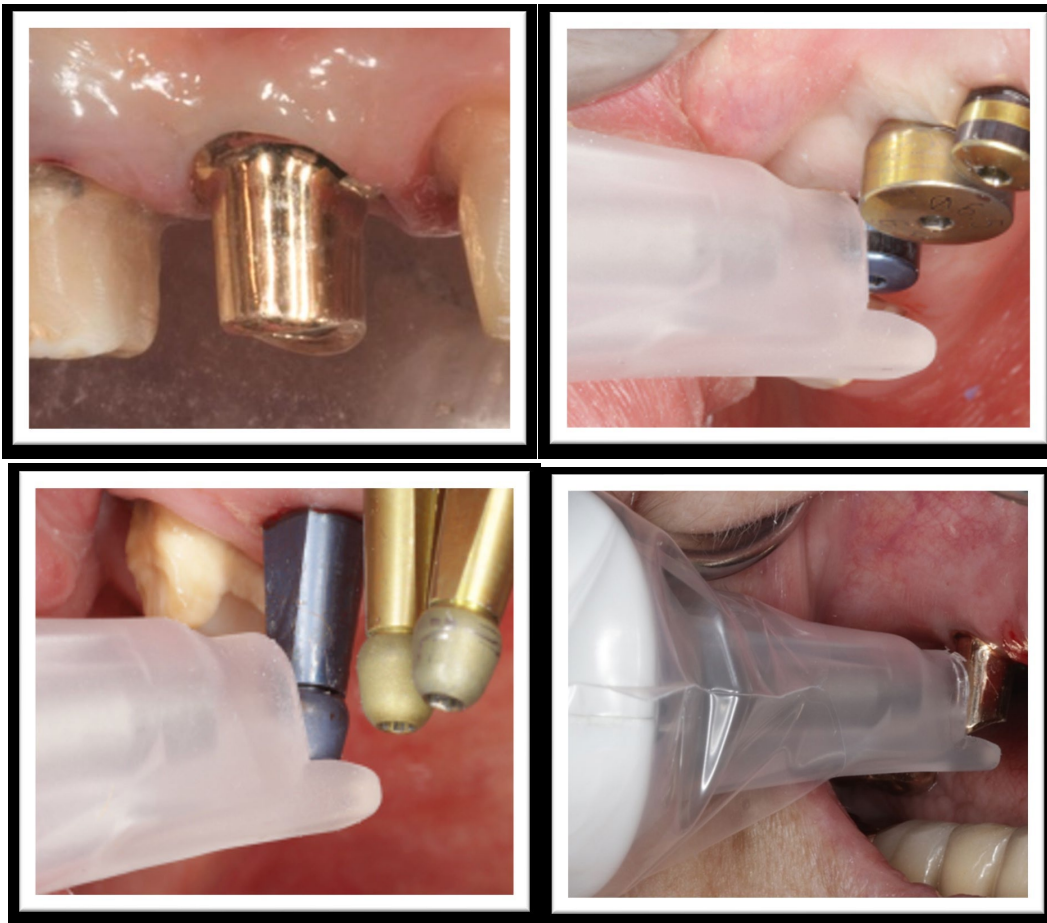

Figure 30: Examples of Abutments/Healing Cap Testing
2. Position the tip tab on the occlusal surface of the abutment and the face of the tip against the buccal surface of the abutment (Figure 30). The handpiece will automatically trigger tapping when lightly pressed against the abutment.